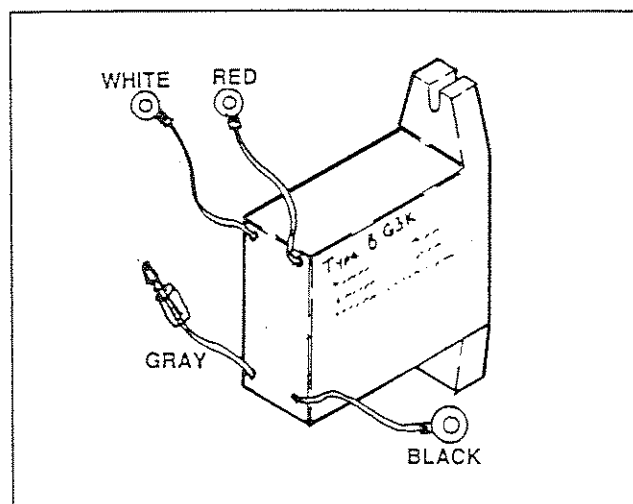

Figure 8. Bridge Rectifier
The transfer mechanism's bridge rectifier rectifies both the "Utility" and the "Standby" current to the solenoid coil (C). A defective bridge rectifier will prevent any transfer or retransfer action at all in the automatic mode. See Figure 8.